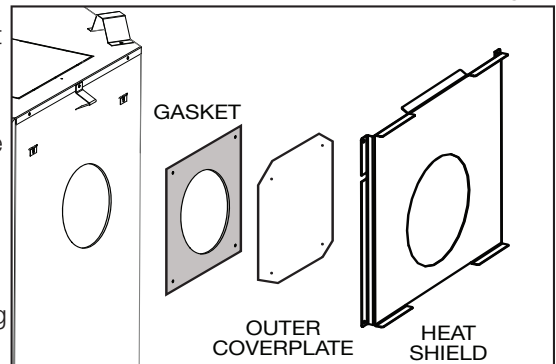

Fig. 2
- D.** Remove the four screws securing the rear heat shield, set aside the shield. Remove the four screws securing the gasket and outer coverplate. (**Fig. 2**).